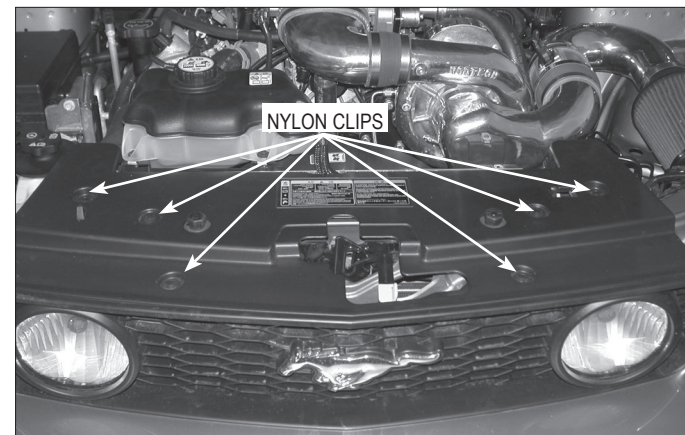

Fig. 3-f
12. Remove the bumper cover and set aside. (See Fig.3 A-i.)